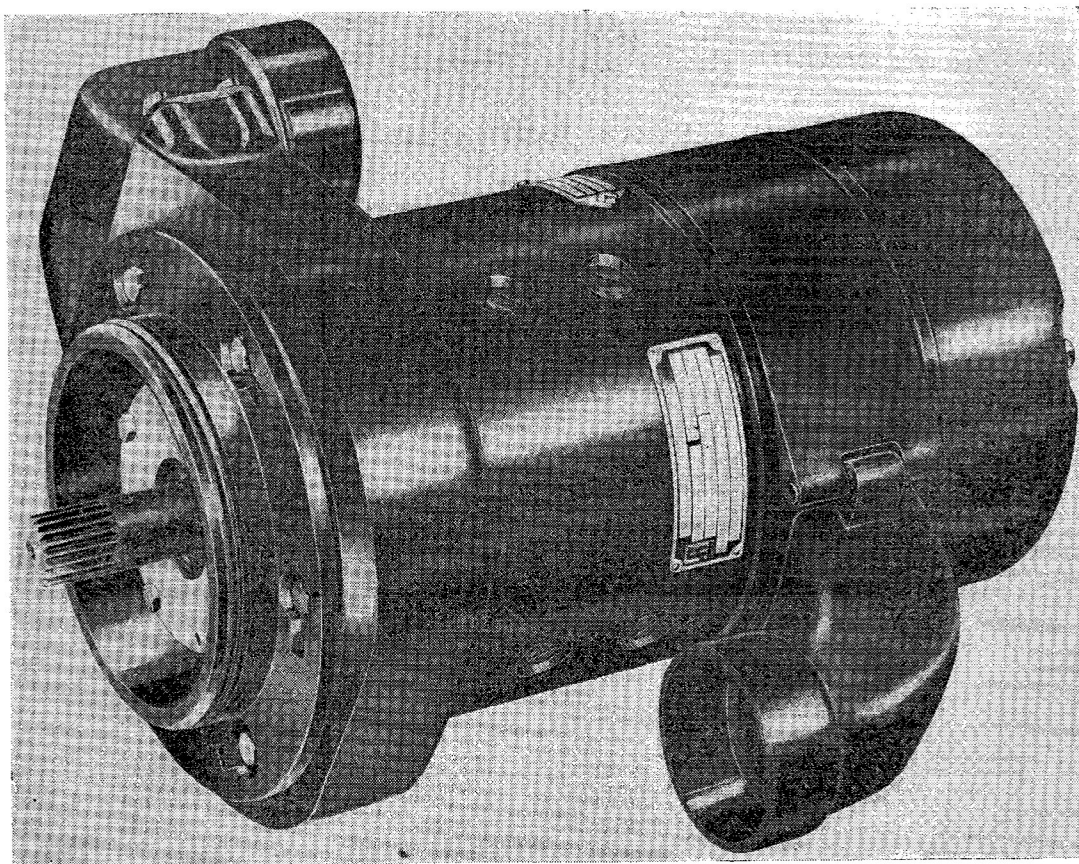

Fig 1. General view of Generator
1. The Type B2901 generator (*fig. 1*) is a four pole shunt wound machine designed for use in aircraft, and provides power supply at 28 volts. (nominal). Blast cooling is necessary.